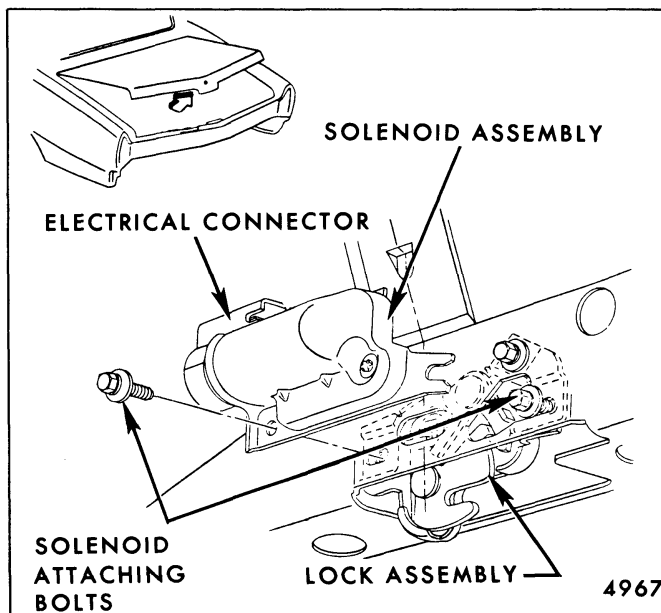

Fig. 7-11-Electric Lid Release Solenoid - All Styles
When electric lid release option is specified, a solenoid assembly is bolted onto the existing lock using two of the original lock bolts (Fig. 7-11).
**NOTE:** On all styles equipped with electric lid release units, disconnect electric feed wire connector, remove two solenoid-to-lock attaching bolts and remove solenoid. Remove third lock bolt to remove lock (refer to Fig. 7-11).
The rear compartment lid mechanical pull-down unit is used in conjunction with the electric lid release (Figs. 7-11 and 7-16).